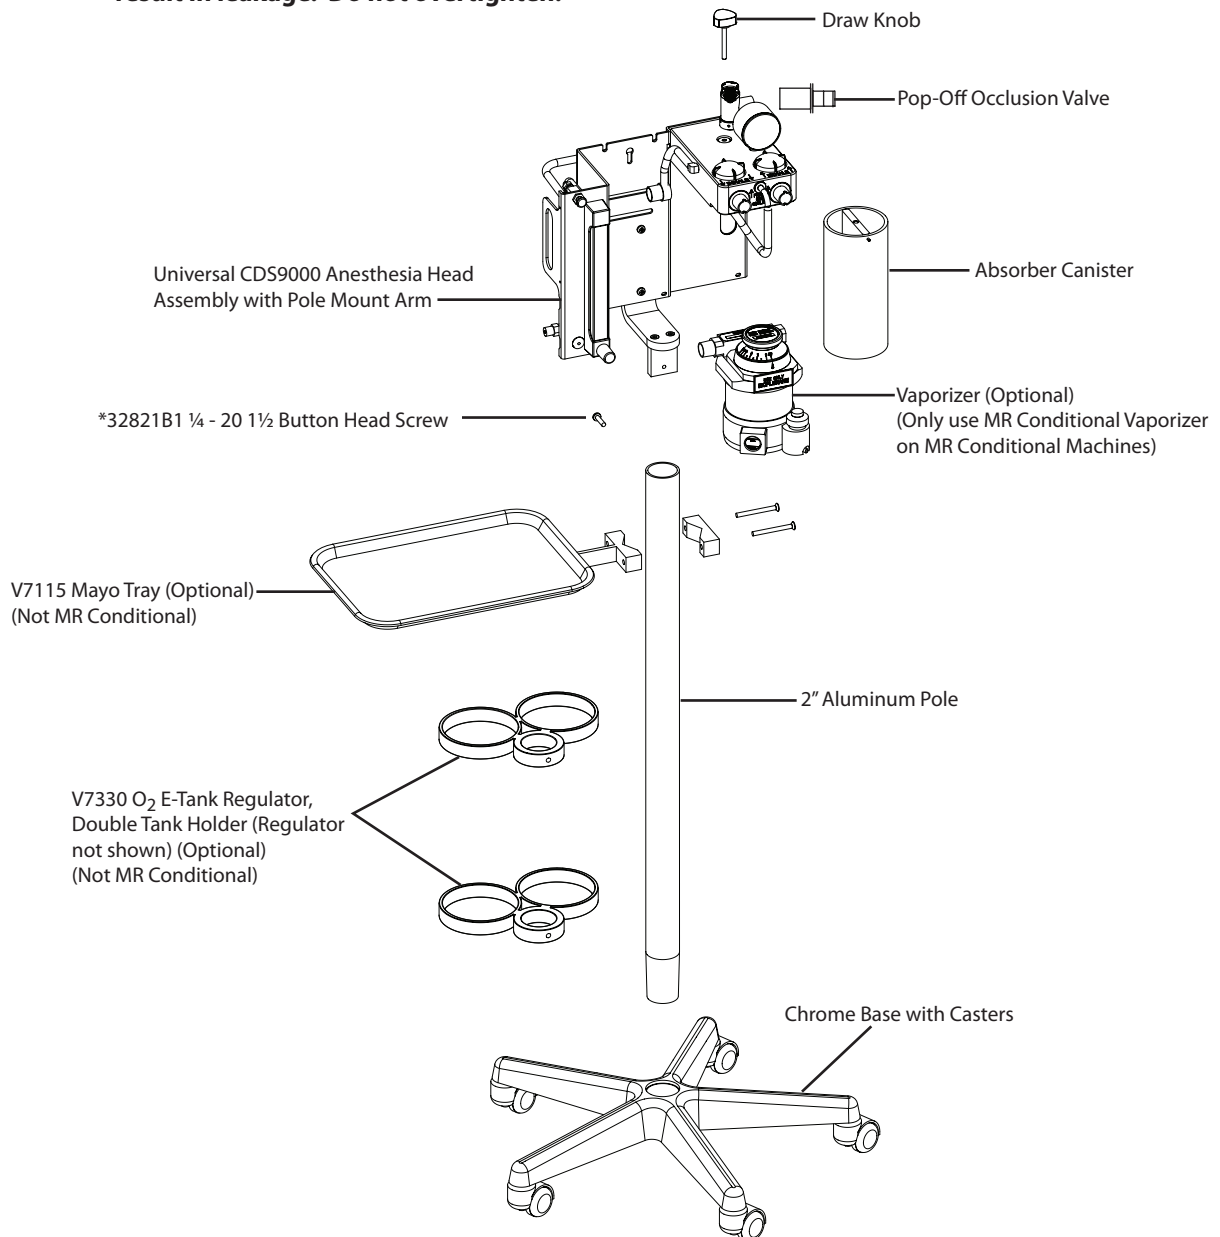

Figure 3-1: Machine Set-up
2. Firmly insert casters into the base to ensure a balanced base (See Figure 3-1).